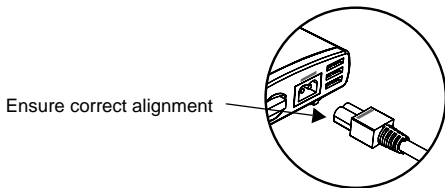

Figure 2 Connecting the Inverter and DC Cable
1. Plug the DC cable (Xantrex part number: 808-7141) into the DC cable port on the Pocket inverter. Observe correct polarity. See Figure 2.